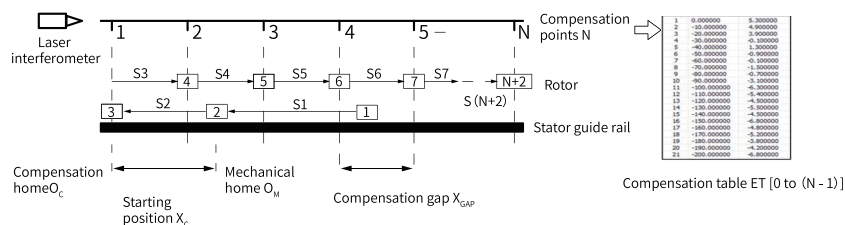

Figure 12-10 Schematics for accuracy compensating table acquisition
- In this stage, you can obtain the accuracy compensation data table for subsequent accuracy compensation control. The schematic diagram and flowchart are shown in “Figure 12-10” on page 491 “Figure 12-11” on page 492 .